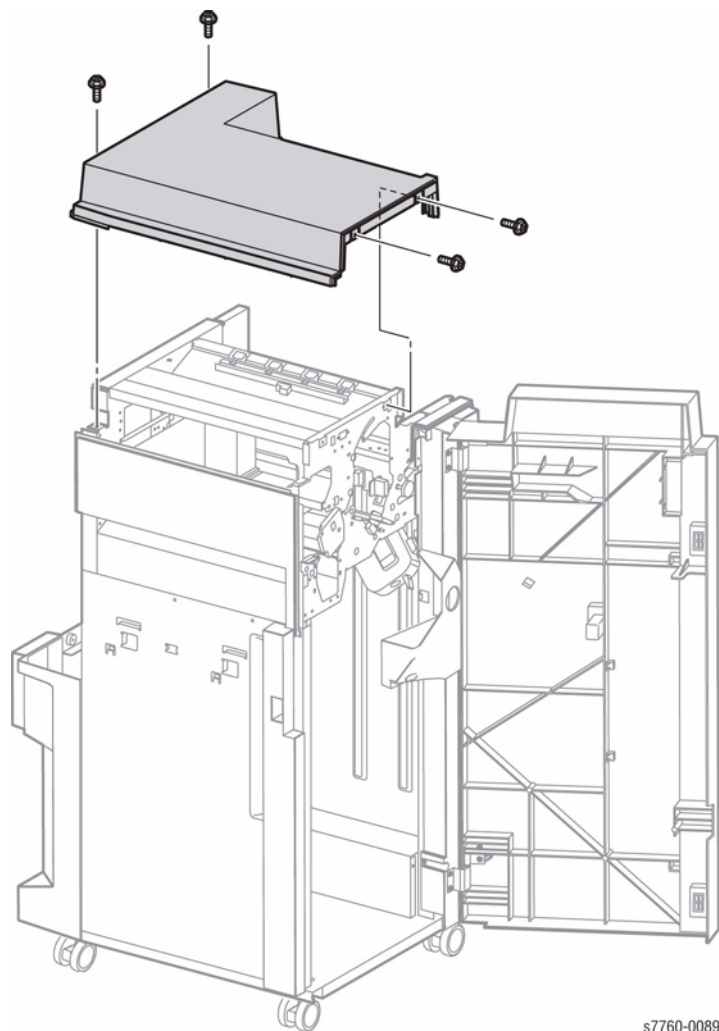

Figure 1 Removing Top Cover
3. Remove the 2 screws and remove the Top Cover (Figure 1).